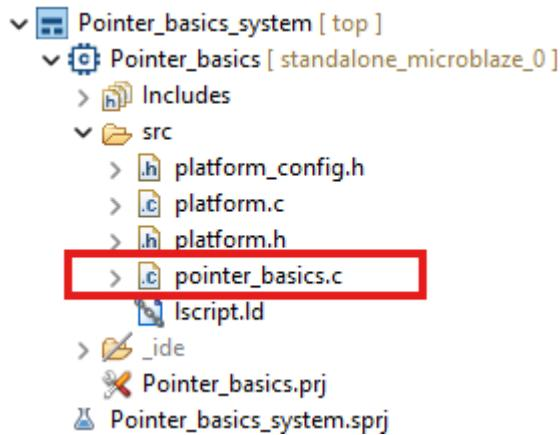

Figure 4.
- As shown in the Figure 4, in **Project Explorer**, expand the **Pointer_basics → src** folder.